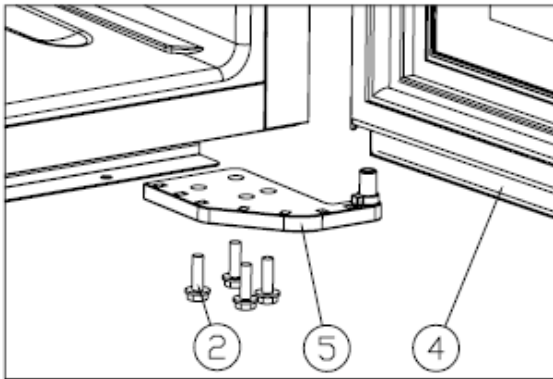

Figure 2
- ✧ Unscrew the M5*16 screws ②, dismantle the right lower hinge ⑤ [Figure 2]